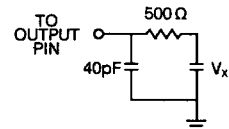

Figure 1. AC Output Test Load ( $V_x = 2.0V$  except for  $t_{DIS}$  and  $t_{ENA}$ )
1. Transition is measured +500mV from steady-state voltage with loading specified in Figure 1.  $V_x = 0V$  and  $2.6V$ .
Output Load	See Figure 1